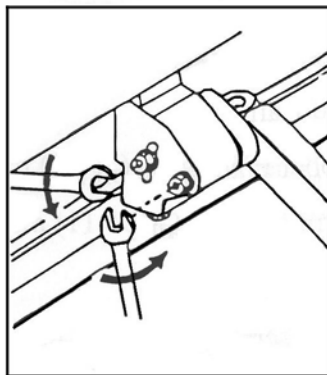
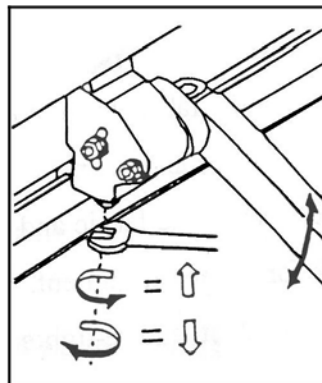
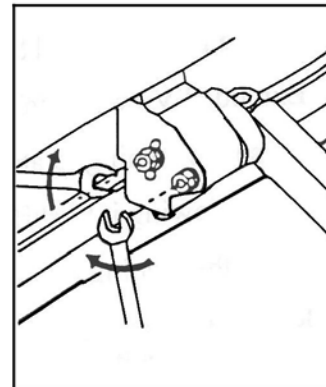

Fig. 2a
Fig. 2b
Fig. 2c
The awning comes factory pre-set with a pitch angle of approximately 20 degrees. If it is desired to increase the angle, loosen the (2) lock nuts located on the outside upper joint of each arm using a 3/4” or 19mm wrench. See Fig. 2a. Adjust the arms DOWNWARD by rotating the bolt head at the bottom of the arm connection in a CLOCKWISE direction (looking from the bottom up). See Fig. 2b. Likewise, rotating the bolt in a COUNTER CLOCKWISE direction will RAISE the arm. After all arms are adjusted to the desired height, re-tighten lock nuts on the side of each arm. See Fig. 2c